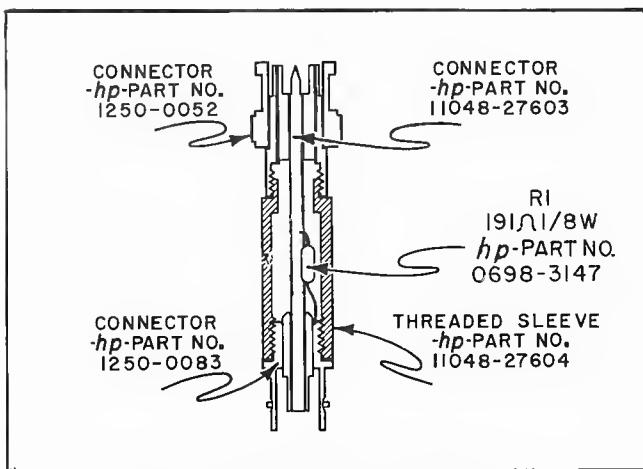

Figure 5-2. 190 Ohm Termination.
- b. Connect the 313A output to the J3 input of the 312D and a short across J4 as shown in Figure 5-1(b). The construction of the 190 ohm termination is shown in Figure 5-2.